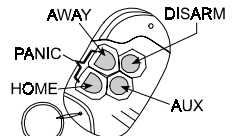

Figure 21. MCT-234
A. MCT-234 (Fig 21): 'Keyfob' transmitter - one unit is supplied with the PowerMax. You can program the AUX (auxiliary) button to perform various tasks, in accordance with the user's needs.